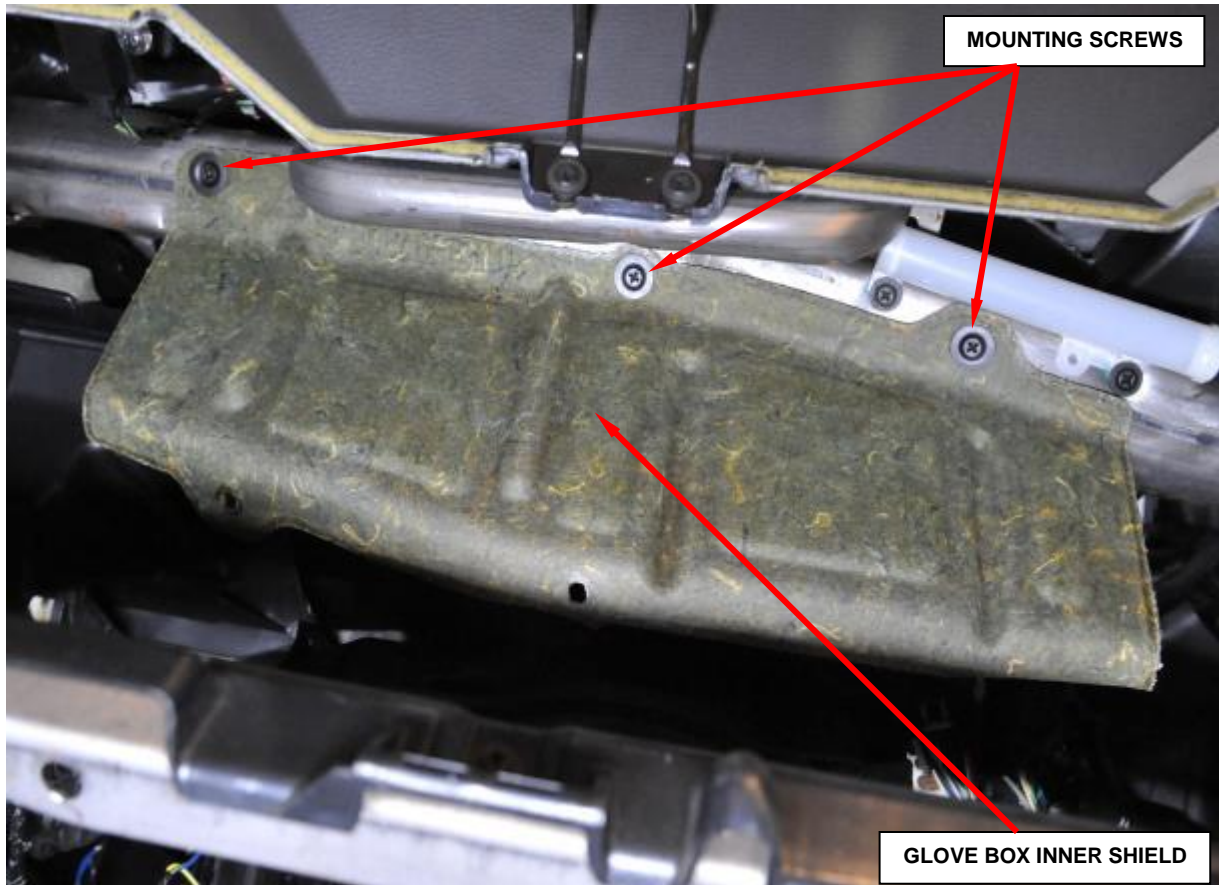

Figure 17 – Inner Glove Box Shield
4. Remove and save the three mounting screws to the inner glove box shield, if equipped (Figure 17).